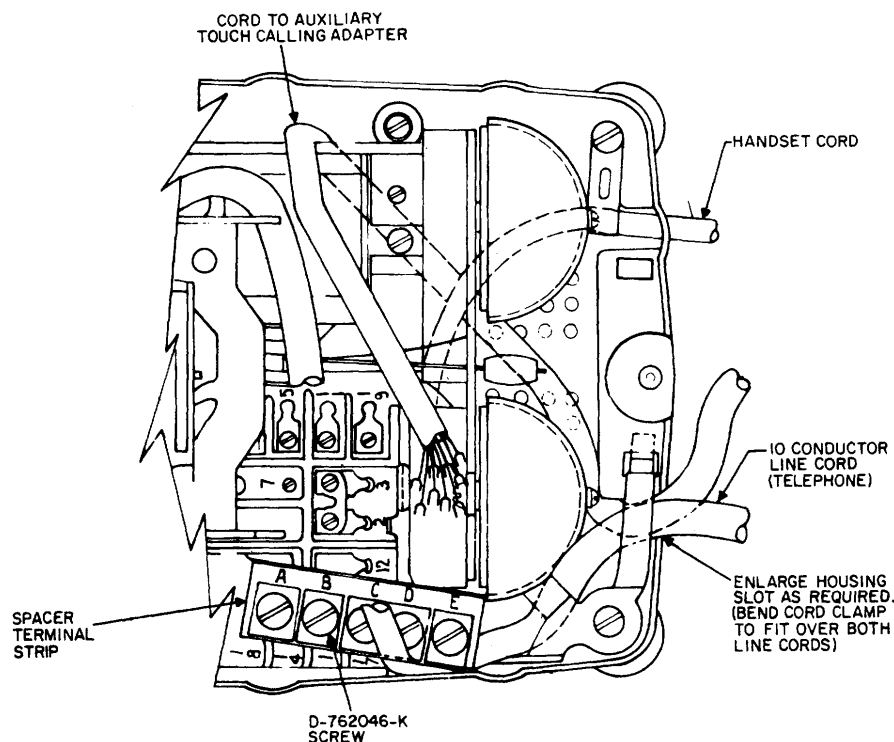

Figure 7. Routing and Securing Cord from Auxiliary Touch Calling Adapter to Type 86 and Type 87 Telephones.
- (a) Route and secure the adapter's cord to a Type 86 telephone as shown in Figure 7.
- (a) Route and secure the adapter's cord to the Type 87 telephone as shown in Figure 7.